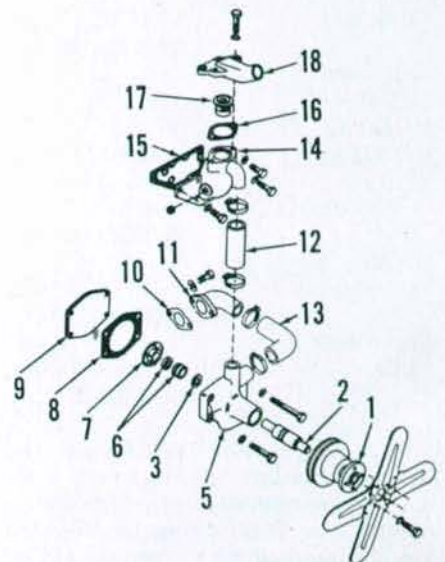

Fig. 82—Exploded view of water pump and thermostat housing.
83. **THERMOSTAT.** The thermostat (17—Fig. 82) is contained in a housing under the coolant outlet elbow (18). Thermostat should begin to open at 81°84°C (177°183°F) and should be fully open at 98°C (208°F).
To disassemble, remove back cover plate (9—Fig. 82). Remove pulley hub (1)